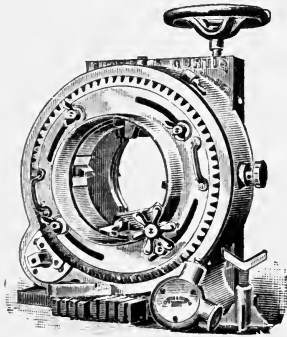

Fig. 18
**Forbes Pipe-Threading Machine.**—A pipe-threading machine that is operated by hand power is shown in Fig. 18. This machine is provided with adjustable dies which may be so set as to cut a shallow or deep thread. The machine is light and portable, can be geared to run at different speeds,